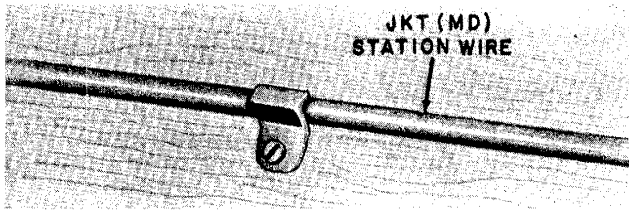

Fig. 3—B Station Wire Clamp
**2.03** This nail is used to fasten JKT (MD) Station Wire to plaster or wood surfaces. It can be used with D Station Wire if care is taken to ensure that the smaller diameter wire is sufficiently secure by the arm of the nail. B Station Wire Nails are available in 1/2-inch and 7/8-inch lengths, in ivory (—50) and light olive gray (—49) finish. The 7/8-inch length is also available in galvanized finish for outdoor use.
**B STATION WIRE CLAMP (Fig. 3)**
**2.04** This clamp is used to support JKT (MD) Station Wire. It is available in ivory (—50), light olive gray (—49), or a galvanized finish.